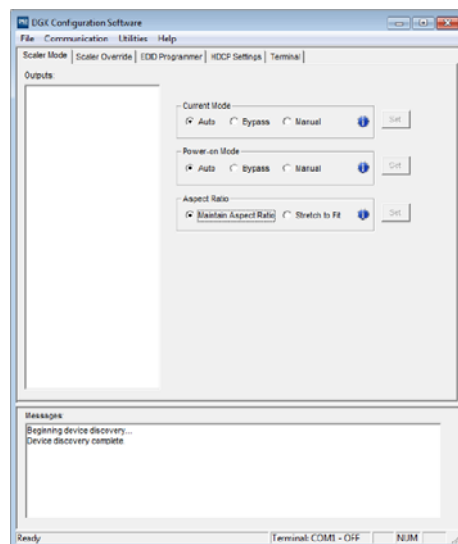

FIG. 161 Scaler Mode tab
1. Select the **Scaler Mode** tab (FIG. 161):